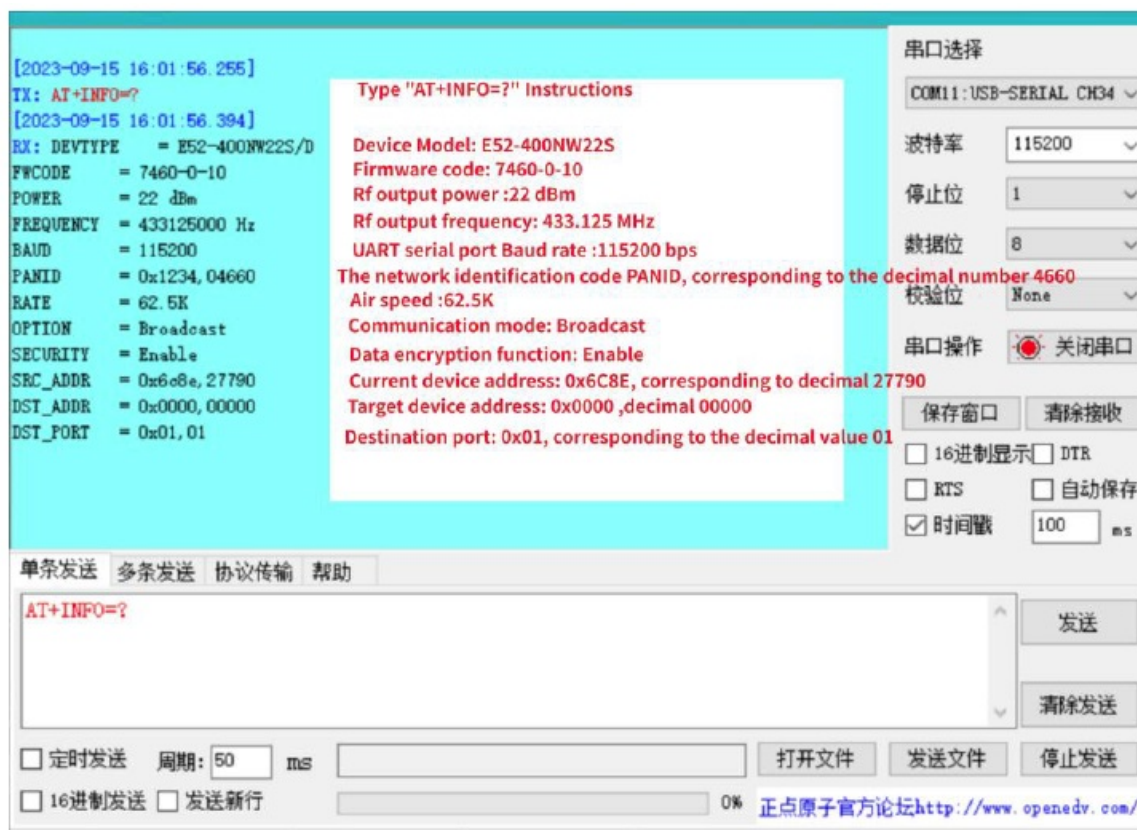

Figure 8.1.1 AT+INFO=? command
- The main parameters of the module can be obtained through the “AT+INFO=?” AT command. It is mainly used for serial port display, as shown in Figure 8.1.1.